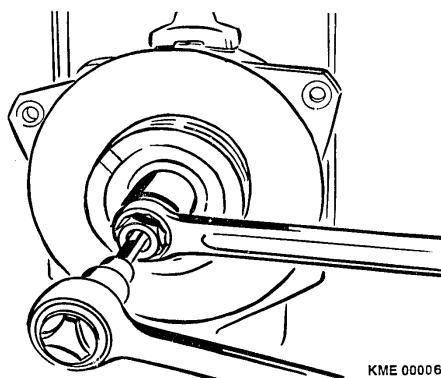

Figure 9 Pulley and Fan Removal
1. Using a 14-mm hex socket to hold the rotor shaft. Loosen and remove pulley-retaining nut with a box wrench. (Figure 9)